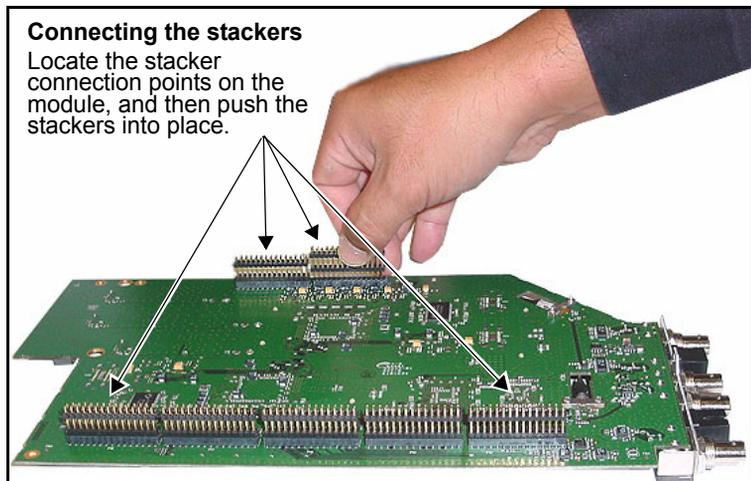

Figure C-10. Connecting Seven Stackers to Module
4. Turn the board upside down and insert the seven stackers into the corresponding connectors on the underside of the board. See Figure C-10.